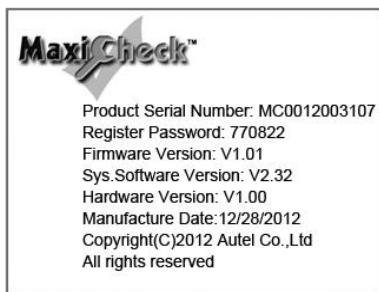

Figure 3.6
- 2) View tool information on screen (Figure 3.6). Press the **ESC** button to exit.